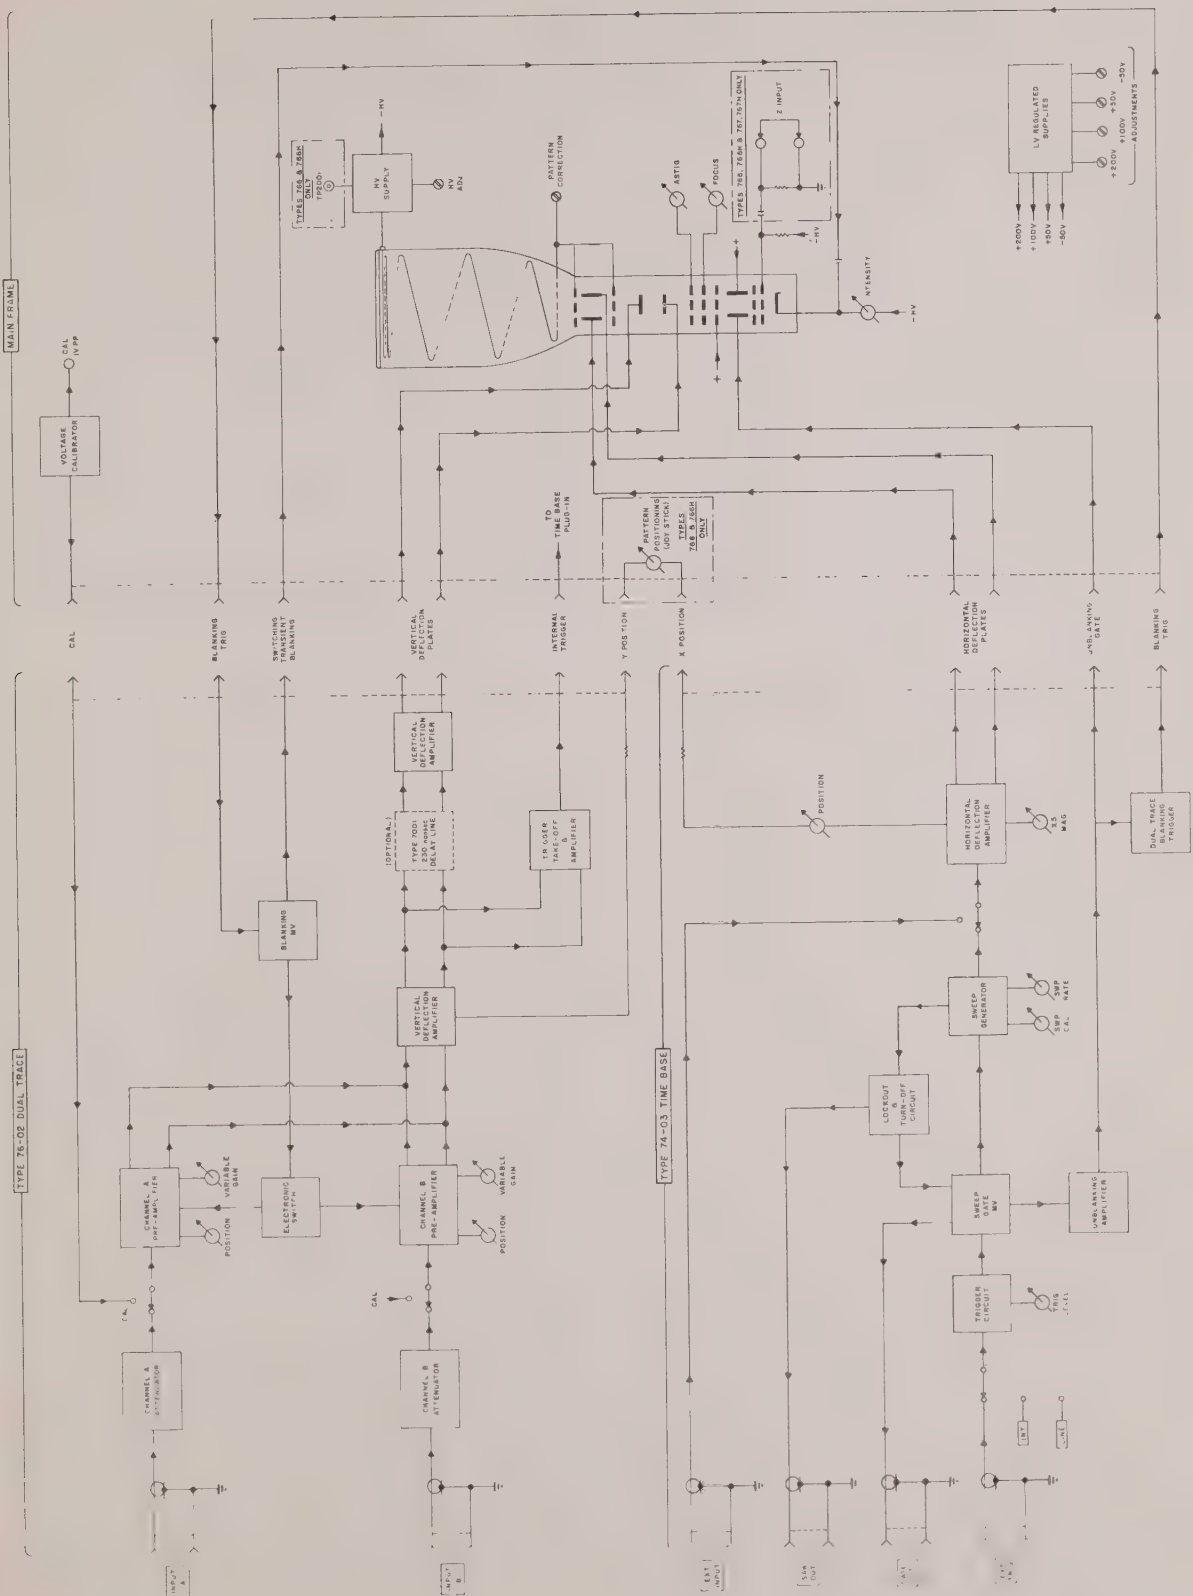

FIGURE 2-1. OVER-ALL BLOCK DIAGRAM
## 2-7. SERVICING HINTS (Figure 2-1)
1. Remove the side covers and inspect for faulty components. Check the fuses in each power supply buss. Measure the voltages at the test points in the Main Frame. If all the above are within specifications, the problem will most likely be in the plug-ins. It is suggested that other plug-ins known to be operating properly be inserted on a substitution basis. The faulty plug-in is thereby isolated and may now be given remedial attention. Refer to Figure 2-1 for an over-all functional block diagram of the system.